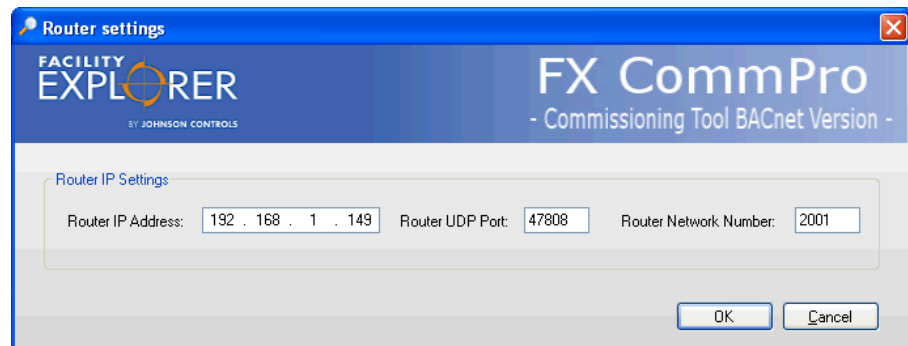

Figure 24: Configure Router Settings
6. Click Configure. The Router Settings window appears (Figure 24).